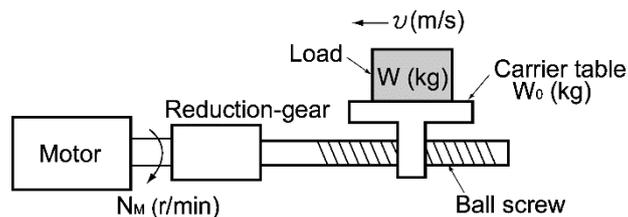

Fig. 10.3-1 Moving a load horizontally
A simplified mechanical configuration is assumed as shown in Fig. 10.3-1. If the mass of the carrier table is W_0 (kg), the load is W (kg), and the friction coefficient of the ball screw is μ , then the friction force F (N) is expressed as follows (Equation (Equation 10.3-3), which is equal to a required force for driving the load:
Assume a carrier table driven by a motor as shown in Fig. 10.3-1. If the table speed is v (m/s) when the motor speed is N_M (r/min), then an equivalent distance from the shaft is equal to $60 \cdot v / (2\pi \cdot N_M)$ (m). The moment of inertia of the table and load to the shaft is calculated as follows ((Equation 10.3-13):